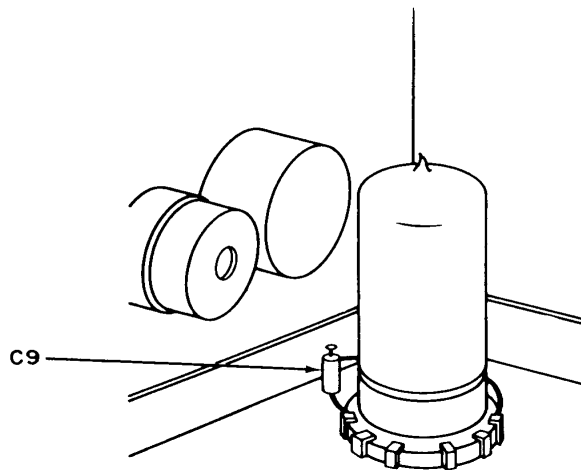

Figure 6. Oscillator - right-side view (panel removed).
- (2) Adjust C9 (fig. 6) for best square-wave pattern on TI crt. (R)